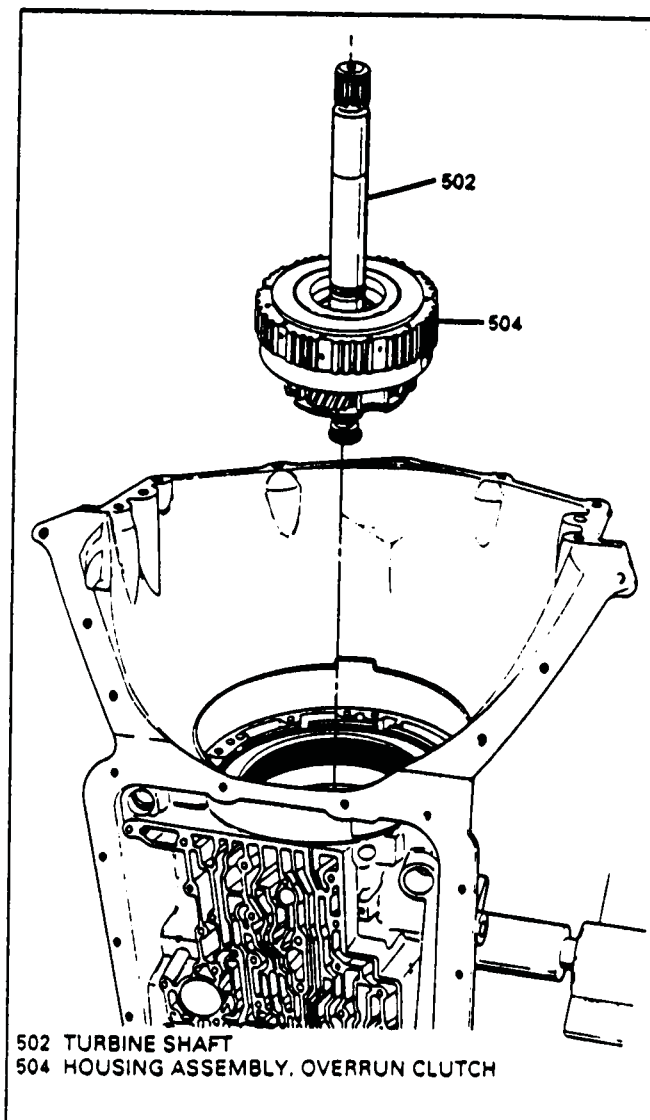

Figure 48
1. Remove the overdrive carrier and turbine shaft assembly, along with the overrun clutch housing assembly, by grasping the turbine shaft and lifting straight up (See Figure 48).